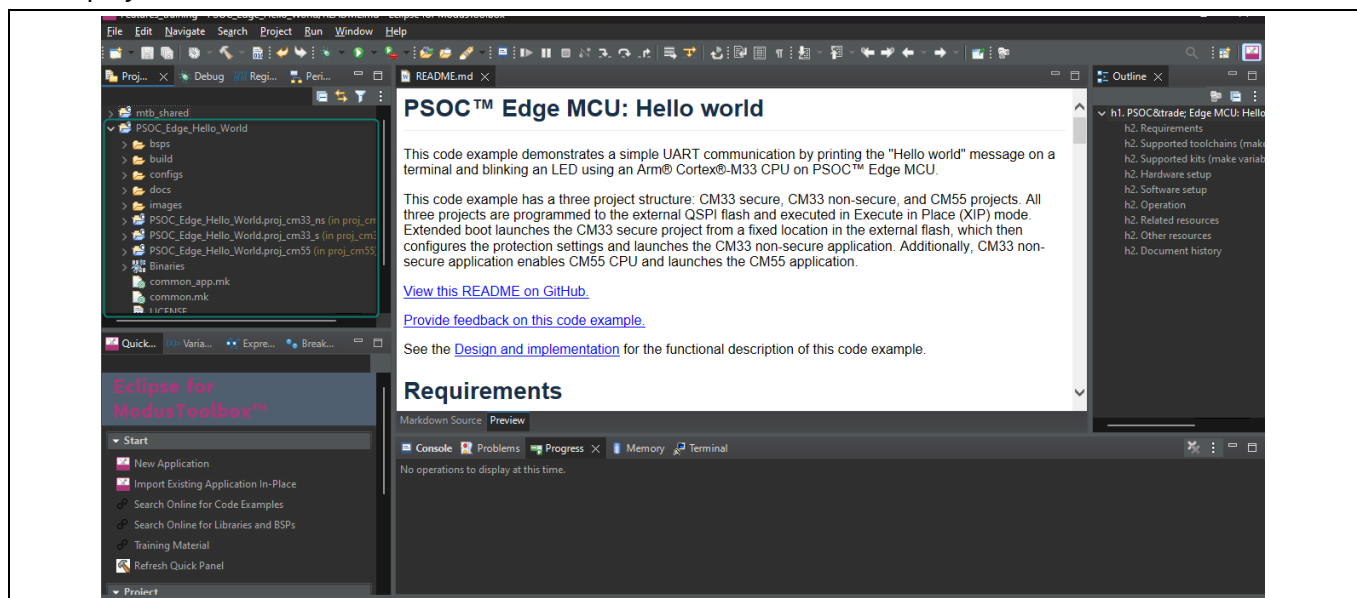

Figure 33 New application created
- A new project is being created, as shown in Figure 33, all the files in the Project Explorer window are displayed